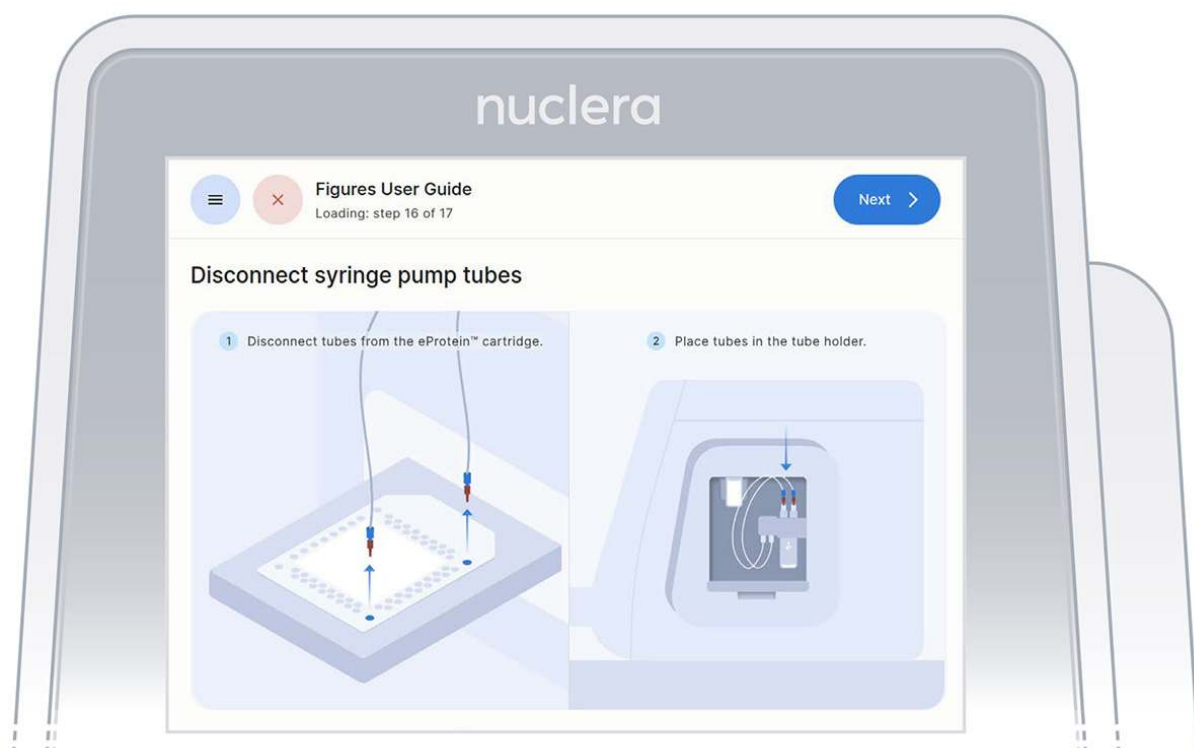

Figure 27: Disconnect the tubes and place them on the tube holder
2. Disconnect the tubes from the cartridge and place them in the tube holder on the right hand side of the instrument. Press the [Next] button on the screen (Figure 27), and the drawer will close. Loading checks will be performed, and the drawer will open.